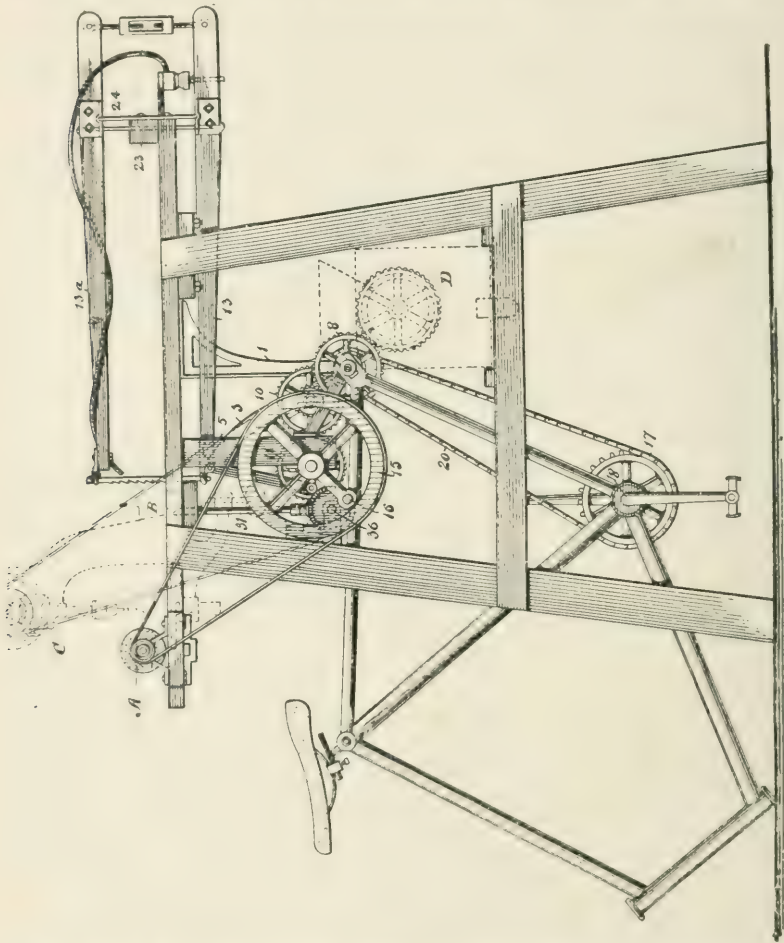
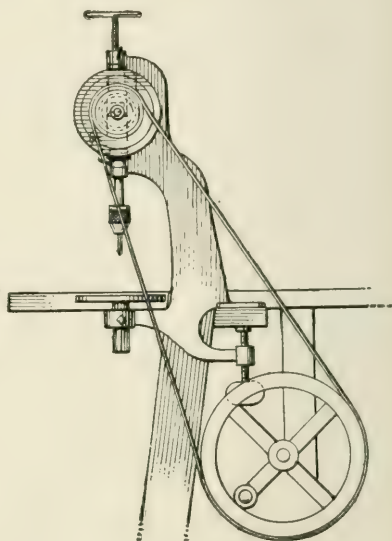

Fig. 45—Combined scroll saw, tool grinder, router and drill press
Fig. 51—The drill-press
Fig. 45 represents a side elevation of the scroll saw with its accessories, which consist of a tool grinder *A*, molder *B*, and drill press *C*. A grater mill, such as used for grinding apples for cider and the like, may be added as shown in dotted lines.
*Drill-Press.*—Fig. 45 shows in dotted lines a portion of a small drill-press clamped to a rail, fastened to the under side of the table, and driven by a belt from the flywheel 15. The tool is shown to better advantage in Fig. 51. This makes a very handy
*Grater.*—The grater, shown in dotted lines at the lower right-hand corner of Fig. 45, consists of a box, in which is mounted to revolve in suitable bearings a shaft carrying on four extending arms two ordinary half round graters, soldered together, making a perfect circle. At the inner end of the shaft is fastened a gear-wheel, which meshes into the gear-wheel 8 on the rear hub 7. A suitable hopper is arranged at the top. This whole contrivance